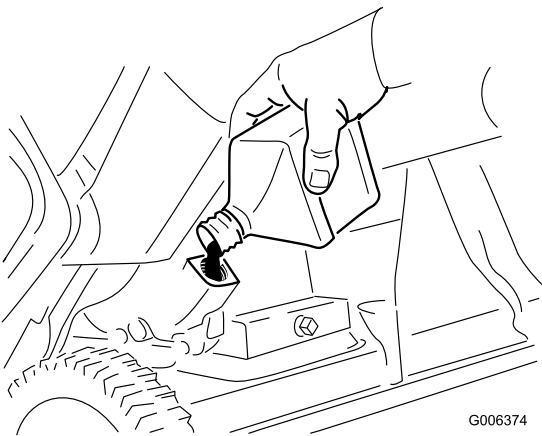

Figure 24
8. With the machine in the operating position, **carefully** pour oil into the oil-fill hole to the point of overflow (Figure 24).